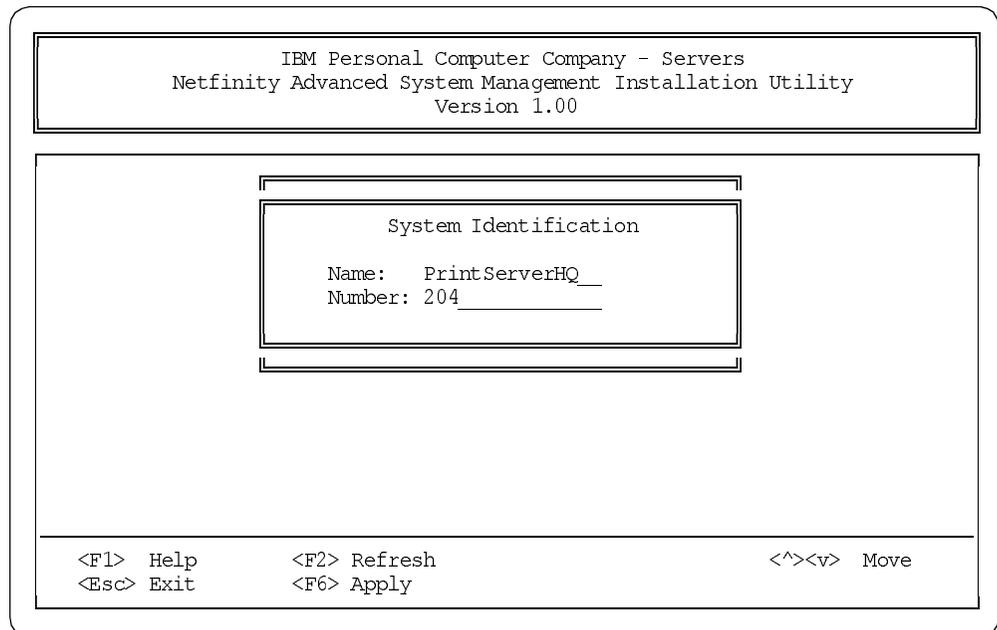

Figure 211. System Identification
3. Highlight **System Identification** and press Enter. Figure 211 appears: